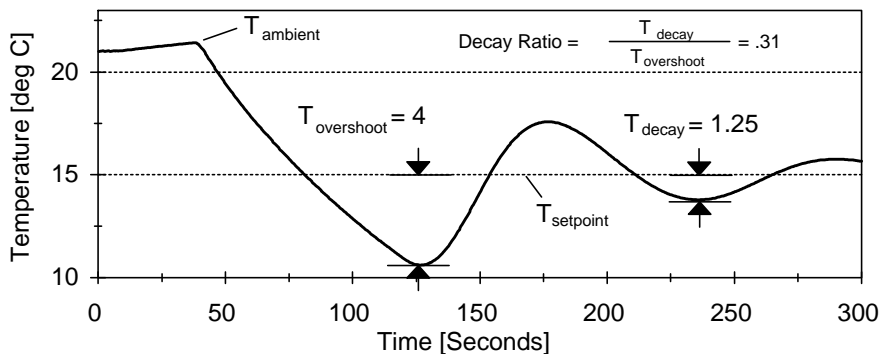

FIGURE 2. Proportional, integral and differential (PID) controller attempts to stabilize load at a 15°C setpoint temperature.
FIGURE 2 shows the response of a simple PID controller stabilizing a load at 15°C from an ambient temperature of 21°C. Several important optimizing factors can be determined from this response. Note this graph was taken using computerized data acquisition, but the following measurements can be taken manually also. We are trying to find the rate of change in temperature vs. time (R), how far the load overshoots the desired temperature ($T_{\text{overshoot}}$), decay temperature (T_{decay}), and the time it takes the load to settle (t_{settle}).
The overshoot temperature is the difference between the desired temperature, and the maximum deviation of temperature from ambient. In Figure 2, this is 4°C. The decay temperature is measured after the load crosses back over the setpoint and overshoots again. In Figure 2, this is 1.25°C. From the values of T_{decay} and $T_{\text{overshoot}}$, we can determine the decay ratio (dampening) of the system and the loop stability.
The decay ratio is a measure of system stability; the larger the decay ratio, the poorer the system loop stability. A decay ratio value greater than 0.25 means the system is greatly underdamped and is susceptible to cycling or instability. For example, the system in Figure 2 has a decay ratio of (1.25/4) or 0.31. The system also cycles around the setpoint and is underdamped. The decay ratio is calculated with: